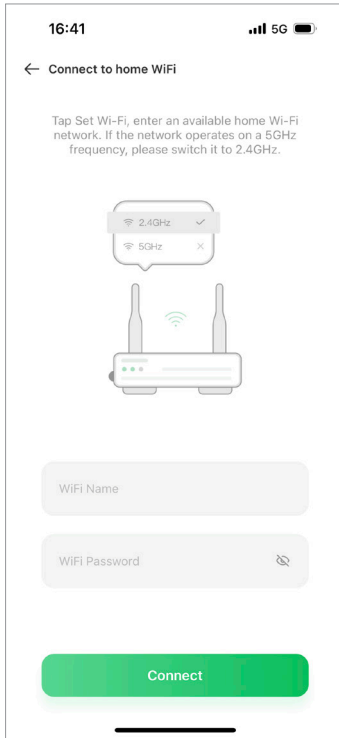

Fig. 5-11
2. Enter the Wi-Fi name and password you want to connect to. Then tap "Connect". (See Fig. 5-11)